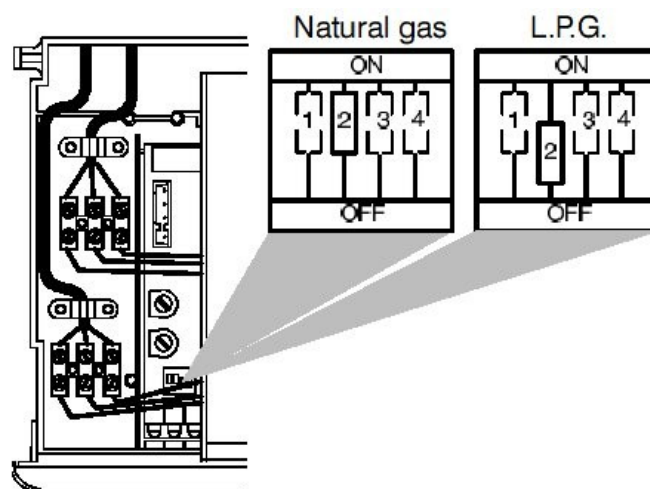

Fig. 7.58
9. set correctly the dip-switch "2" (Fig. 7.58) in accordance with the following table.